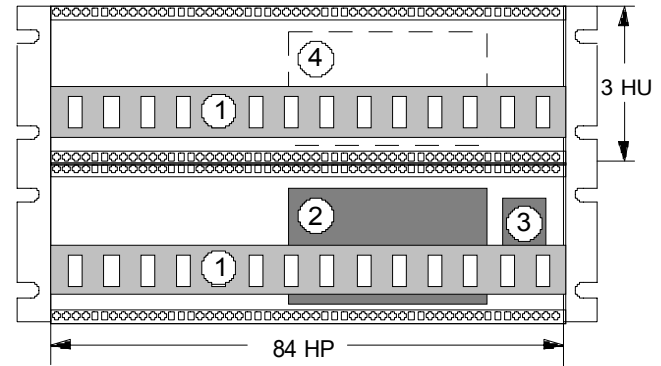

Fig. 1: A look inside the A-100 G rack system
The **rack system** (see Fig. 1) conforms to the 19" standard, and consists of two sections each 3U high, tied together by 6U side panels. It contains two system busses (①), the internal power supply (②), and the main electrical supply socket (③).
Module **front panels** are all 3U high. Their width is measured in HP (1 HP = 5.08 mm). The rack system has a **usable width** of **84 HP** (see Fig. 1). If the modules you install don't use up the entire 84 HP, then you must cover up the spaces with **blanking panels**.
The rack system power supply produces voltages of +12 V and -12 V and can put out a **maximum current of 650 mA**. In setting up a modular system, make sure that the total current required by all the modules doesn't exceed this maximum. If it does, then a second power supply (see Accessories) will need to be installed (at position ④, Fig.1). As a rule, though, one power supply should be sufficient for a rack system.